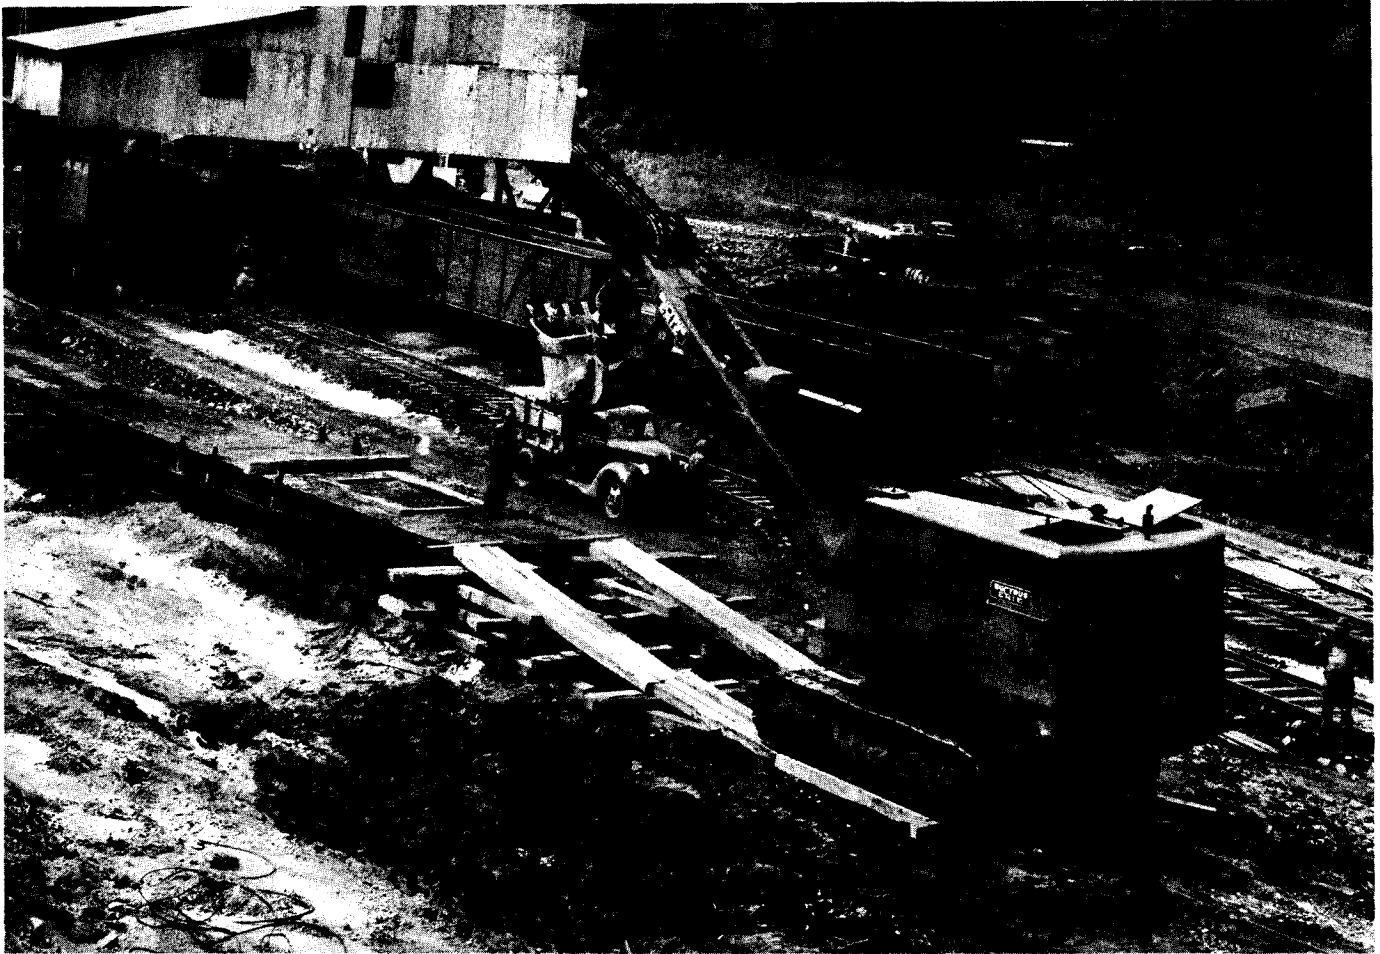

FIG. 2
While the machine is being prepared for unloading, build a ramp at one end of the car similar to the arrangement shown in figure 2. Block the car and use track jacks or pieces of ties sawed to exact length, under each corner of the flat car so that the car will not tip while the machine is being unloaded. **CAUTION: DO NOT SWING OR PROPEL THE MACHINE UNTIL THIS HAS BEEN DONE.**
2. Solidly block the four corners of the car and build a ramp at the end of the car. See figure 2. Use a tractor or winch truck to pull the Lower Works off the car. **NOTE:** Attach a snub line from the Lower Works to the car to check it in going down the ramp.